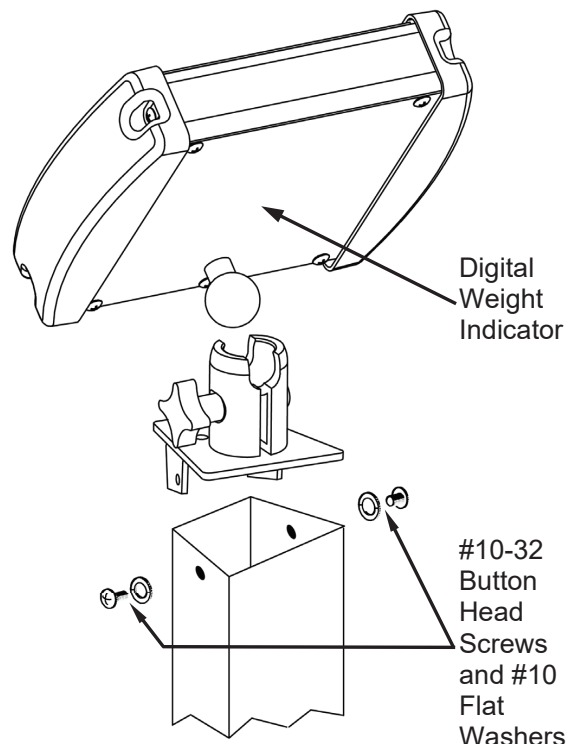

Figure No. 4
11. Attach digital indicator and mounting bracket to the column with two (2) #10-32 button head screws and lock washers. See Figure No. 4.
12. To attach handrail (D), remove two (2) 3/8-16 screws from the top of the weighbridge side. Set handrail on weighbridge side, align holes, reinstall the two (2) 3/8-16 screws and tighten.